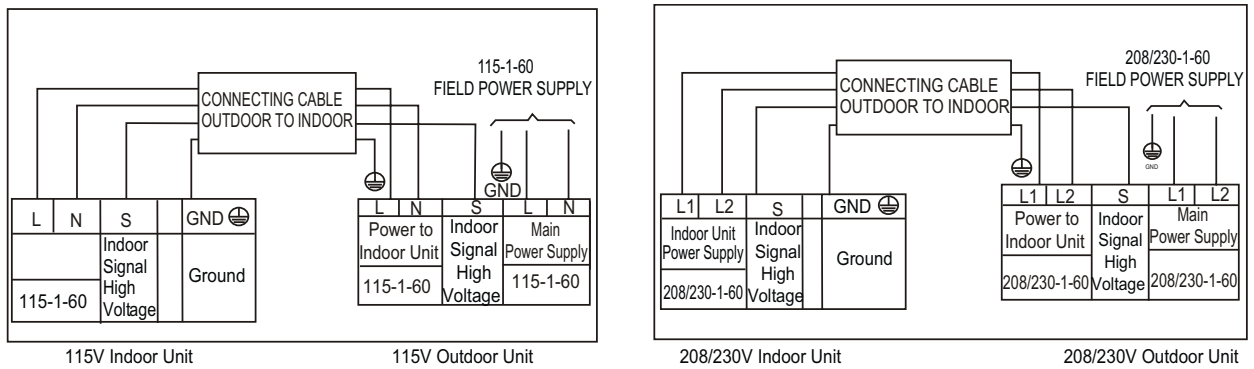
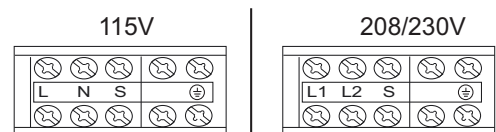

Fig. 12 — Connection Diagrams
Fig. 14 — Control and Power Wiring on Indoor Unit
2. All connections between the indoor and outdoor units must reflect the connections in Fig. 12. The connections are sensitive to polarity and will result in a fault code.
8. Connect the wiring from the outdoor unit per the connection diagram (see Fig. 12 and Fig. 14).